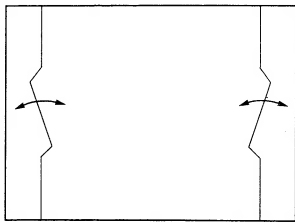

fig. 10
- Adjust the Trapezoid 2 to obtain condition as in fig. 10.